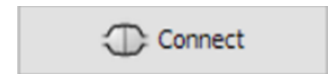
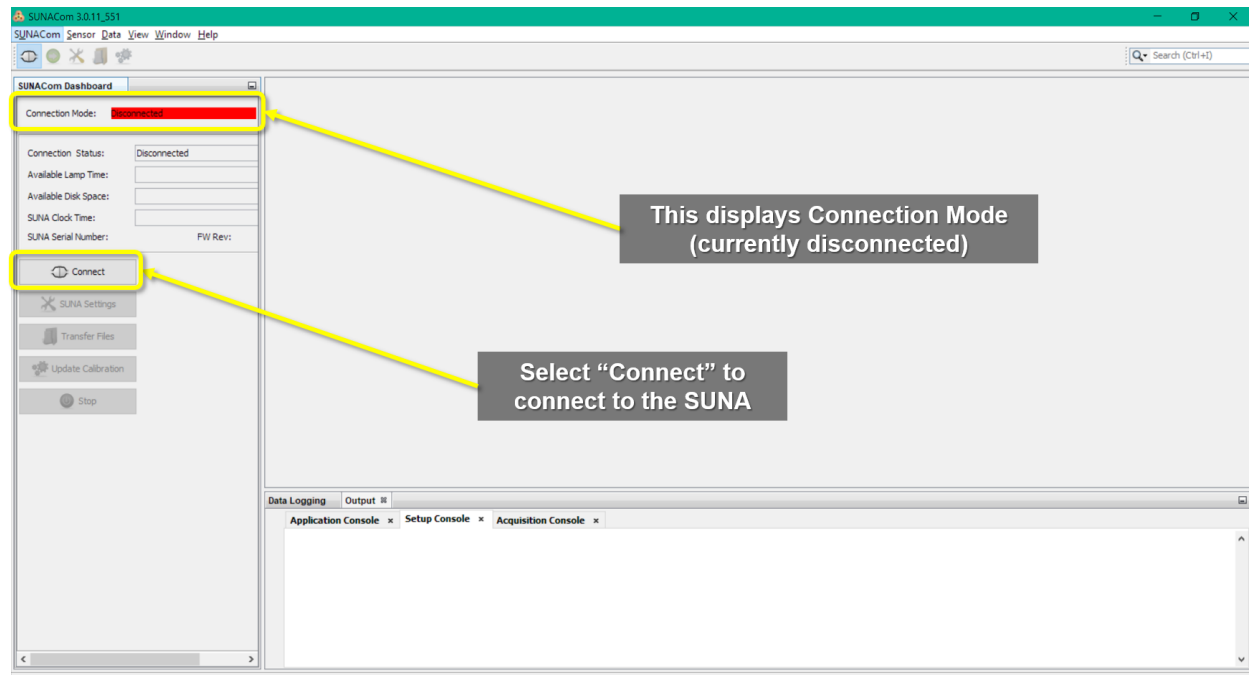

Figure 105. "Connect" Icon
Figure 106. Select the "Connect" Icon (Connection Mode: Disconnected)
5. Select the **"Connect"** icon on the left hand side of the window (see Figure 105 and Figure 106)